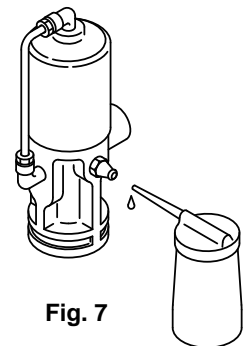

Fig. 7
- 2) Inject several drops (approx. 0.5ml) of lubricant to the air supply port as shown in the figure at right. (Fig. 7)